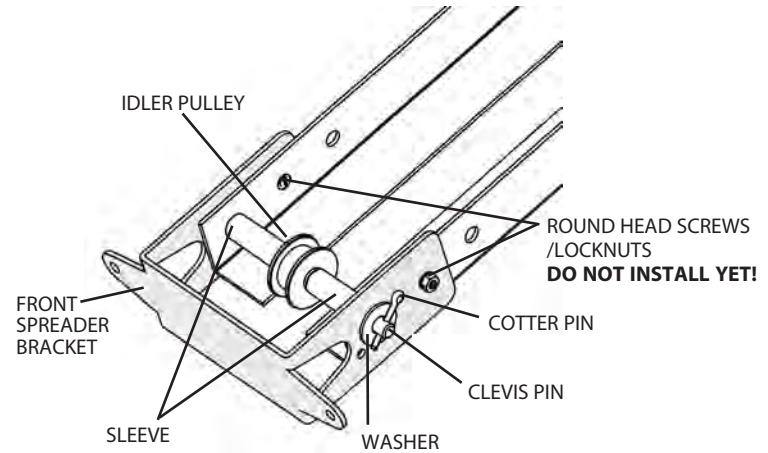

Figure 5
5) Install the idler pulley inside the track by inserting the 3/8" x 4-1/2" clevis pin through one side of the track and as you feed it through an idler sleeve and the idler pulley followed by the second sleeve. Place fender washer (7/16" x 1-1/4") over end of clevis pin. Secure clevis pin using cotter pin. **Fig. 5**.